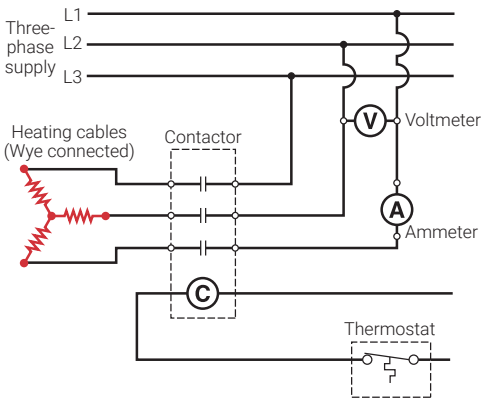

Figure 50: Using voltmeter and ammeter to measure voltage and current in each phase of a three-phase circuit
Energize the circuit and measure the supply line current for each phase of the circuit using a clamp-on or in-line ammeter; if an in-line ammeter is used, it must be series connected in the circuit (see Figure 50). The three current measurements should be approximately equal. Measure the voltage across each line-to-line pair (L1-L2, L2-L3, L1-L3) using a voltmeter. The three voltage measurements should be equal. Record the values in the Surface Snow Melting Installation Record in Section 10. This information is needed for future maintenance and troubleshooting.
**Important:** For a Wye connected three-phase circuit, the voltage (L-N) across each heating cable will equal the line-to-line supply voltage, measured in Figure 50, divided by the square root of 3 ( $V_{L-L}/\sqrt{3}$ ).